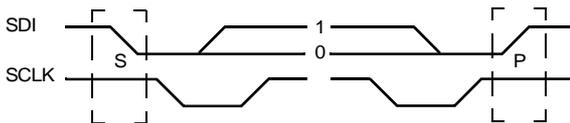

Fig. 2–3: Example of an I²C protocol for the DAC 3560C (MSB first; data must be stable while clock is high)
Fig. 2–3 shows I²C bus protocols for write and read operations of the interface; the read operations require an extra start condition and repetition of the chip address with the device read command (DR). Fields with signals/data originating from the DAC 3560C are marked with a gray background.